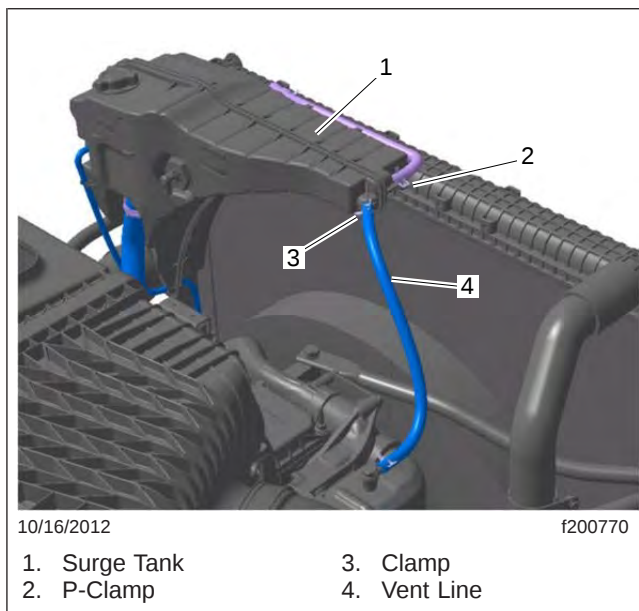

Fig. 4, Surge Tank Installation
7. Remove the surge tank. See Fig. 4. For instructions, see **Section 20.00, Subject 110** of the *Coronado Workshop Manual*.
30. Install the surge tank. See Fig. 4. For instructions, see **Section 20.00, Subject 110** of the *Coronado Workshop Manual*.